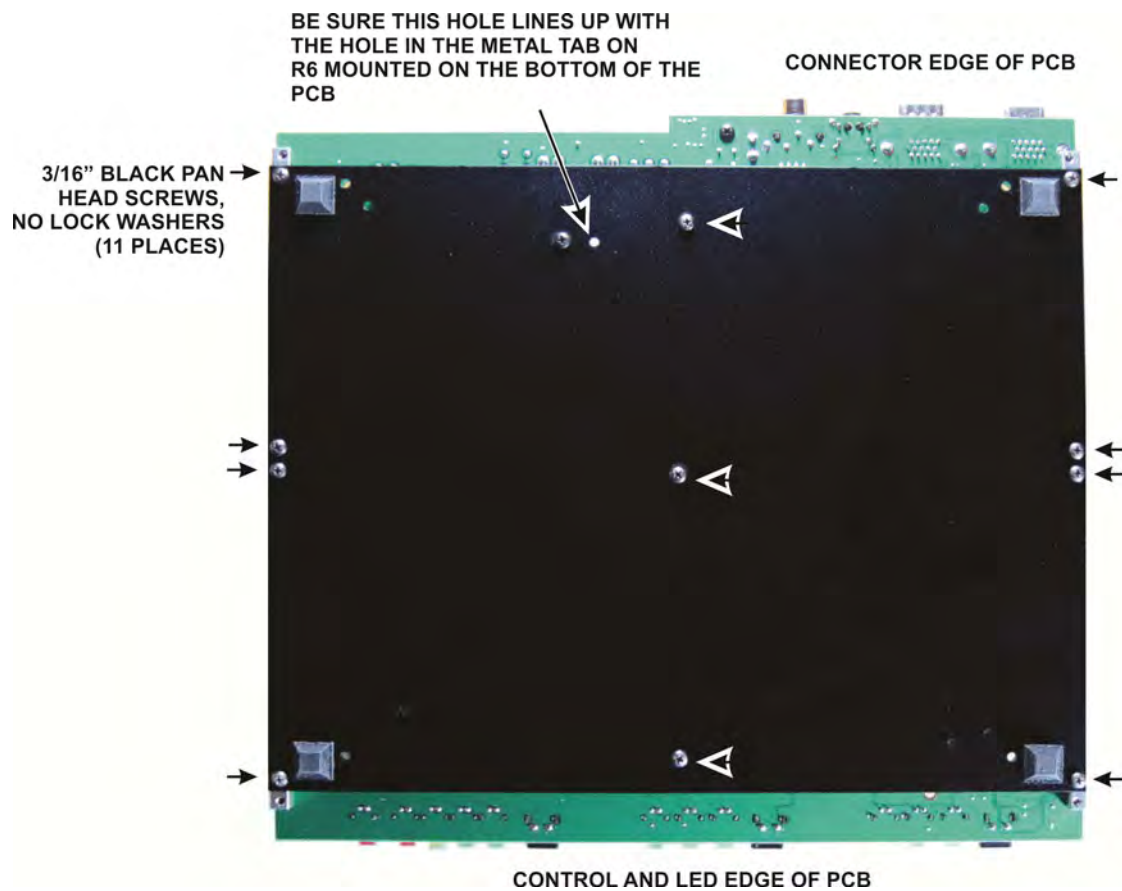

Figure 13. Installing the Bottom Cover.
□ Attach the bottom cover as shown in Figure 13. Note that the bottom cover only fastens to one of the two screw holes in each of the 2D fasteners mounted at the corners of the circuit board. The remaining screw holes in those 2D fasteners will be used to secure the front and rear panels. When positioning the bottom cover, be sure the open hole shown in Figure 13 lines up with the hole in the tab for R6 mounted on the circuit board.